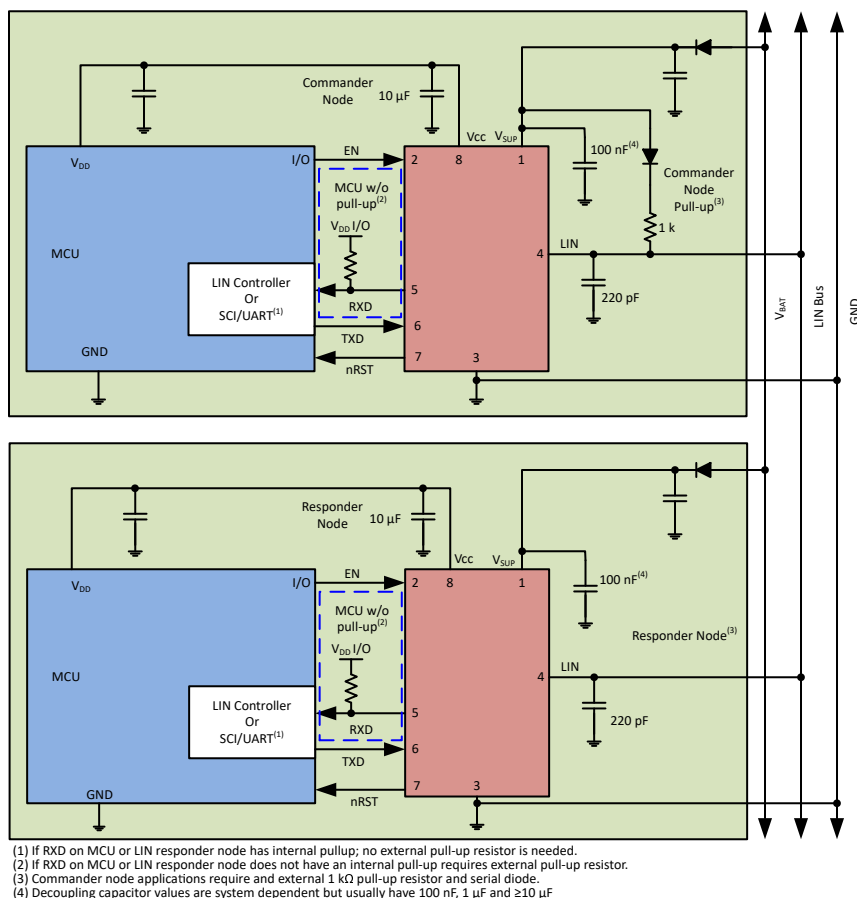

Figure 10-1. Typical LIN Bus
The device comes with an integrated 45 kΩ pull-up resistor and series diode for responder node applications. For commander node applications, an external 1 kΩ pull-up resistor with series blocking diode can be used. Figure 10-1 shows the device being used in both commander and responder node applications.
- **Pin 2 (EN):** EN is an input pin that is used to place the device in a low power sleep mode. If this feature is not used, the pin should be pulled high to the regulated voltage supply of the microprocessor through a series resistor, values between 1 k Ω and 10 k Ω . Additionally, a series resistor may be placed on the pin to limit current on the digital lines in the event of an over-voltage fault.
- **Pin 4 (LIN):** This pin connects to the LIN bus. For responder node applications, a 220 pF capacitor to ground is implemented. For commander node applications, an additional series resistor and blocking diode should be placed between the LIN pin and the V_{SUP} pin. See Figure 10-1